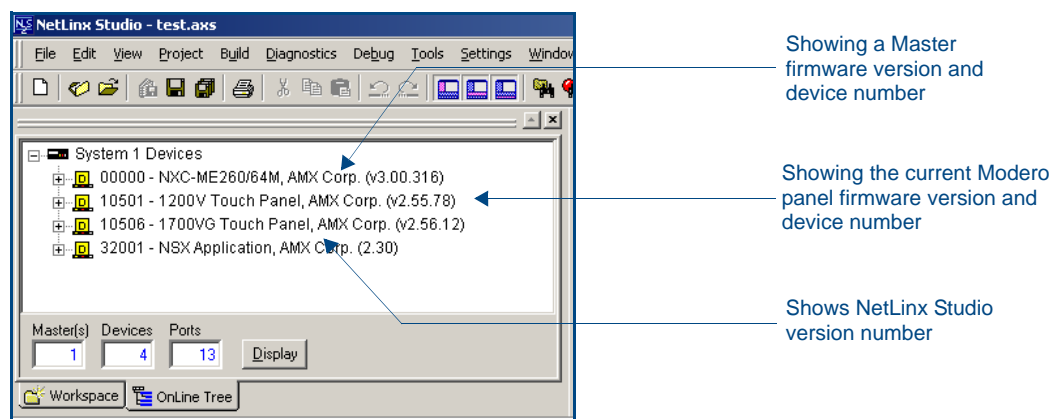

FIG. 76 NetLinx Workspace window (showing connected Modero panel)
3. After the Communication Verification dialog window verifies active communication between the PC and the Master, verify the panel appears in the **OnLine Tree** tab of the Workspace window (FIG. 76). *The default Modero panel value is 10001.*